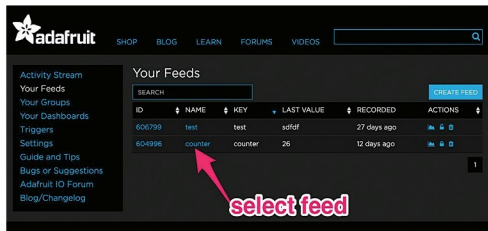

Fig. 5: Feeds window on Adafruit IoT platform
3. After creating an account, you need to manage your feeds for publishing on the dashboard as shown in Fig. 5. (Feeds is basically a set of data that you can read or write, as specified in the program, as per your application.)